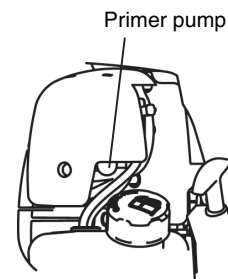

Figure 2
- **Inspection:** Remove the oil cap. Wipe clean the oil level indicator. Reinstall the oil cap (Figure 2) and remove. Confirm if the oil is between the lower or upper limit of the oil indicator.
- (3) Continue to push the primer pump until fuel comes into the primer pump (Figure 2).
- (4) Orient the machine as shown in Figure 2 and refill oil to the shelf inside the oil pipe.
- (5) After refill, securely tighten the oil gauge. Insufficient tightening of the oil gauge will lead to oil leakage.